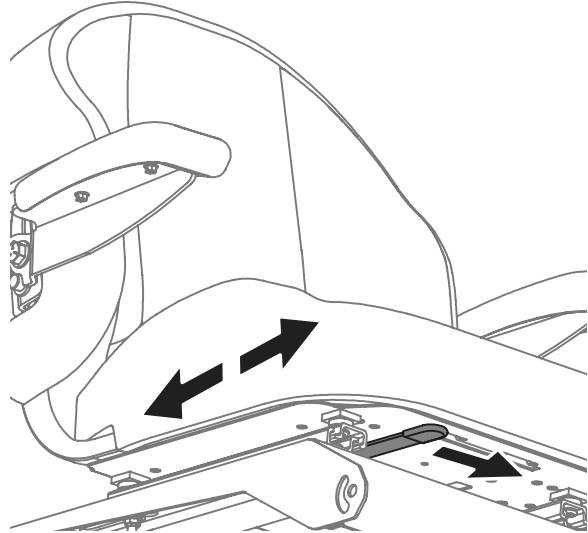

Figure 18
3. Release the adjustment lever. Ensure seat is locked into position before operation (Figure 18).